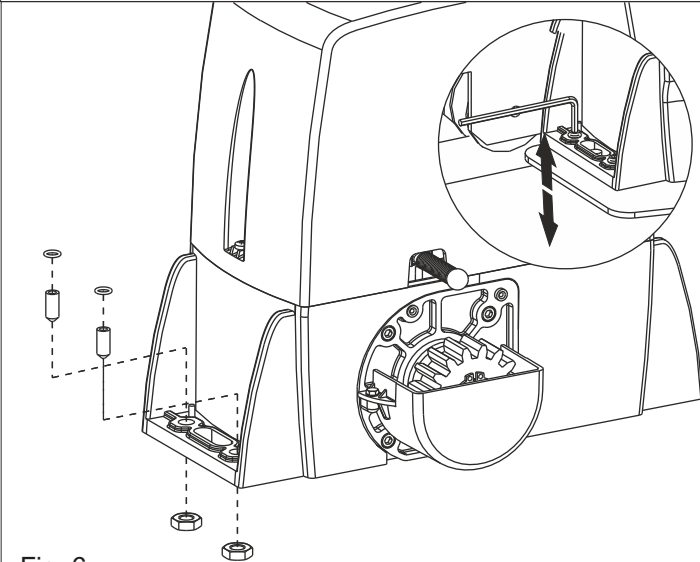

Fig. 6
4.1. Insert the 4 grub screws into the special holes, in order to adjust the gearmotor height on the plate (Fig. 6) **At the end of installation check if the 4 grub screws are well gripped on the foundation plate**